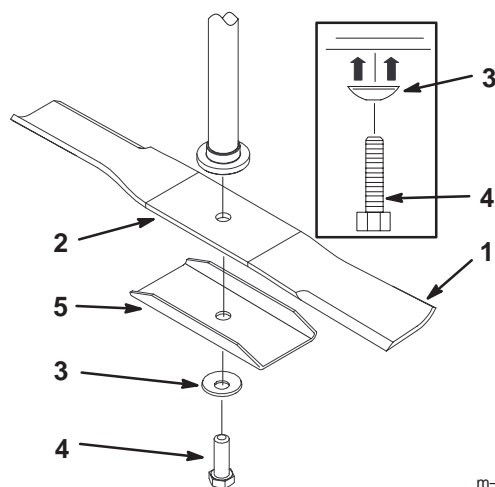

Figure 3
2. Remove the blade bolt, curved washer, stifener and standard blade from the spindle shaft (Fig. 3).
3. Install the recycler blade onto the spindle shaft with the stifener (Fig. 3).
4. Install the curved washer and blade bolt (Fig. 3). Torque the blade bolt to 35–60 ft-lb (47–88 N·m).